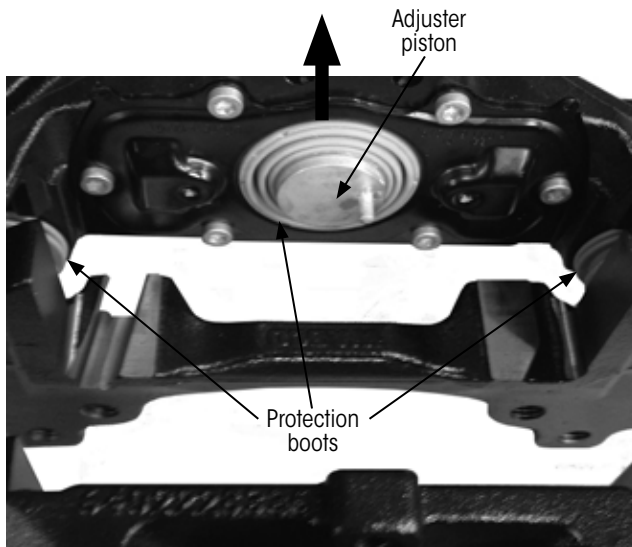

Figure 28: Pushing caliper toward inboard side
NOTICE: Inappropriate cleaning may result in damage to the protection boots (Figure 28 on page 18). This must be avoided.
5. **Check** the protection boots (Figure 28 through Figure 32) for wear and damage.